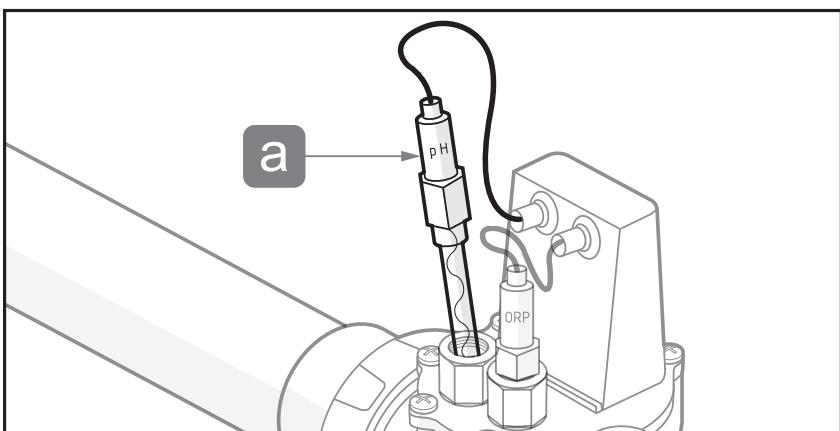

Figure 8. Partially insert
12. Shake pH sensor to remove residual water. Partially insert the pH sensor back into Jandy TruSense, see figure 8. DO NOT put sensor on the ground or touch the glass tube.